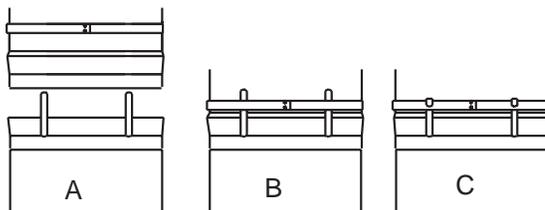

Figure 2
1. After checking for/providing the proper seal (See section on Joint Sealing Method), join sections of conduit by inserting the smaller male (inlet) end into the flared female (outlet) end (with the projecting locking tabs) of the section below, making sure that the locking tabs stay on the outside (Figure 2-A).
2. Push the loose locking ring upward on the conduit. Using the fingers of both hands, press the ends of the locking tabs against the conduit. Let the locking ring fall over the tabs (Figure 2-B).
3. Push the locking ring downward as far as it will go. Bend the locking tabs tightly down over the locking ring and tap the ends against the conduit with a hammer and block of wood (Figures 2-C and 3).